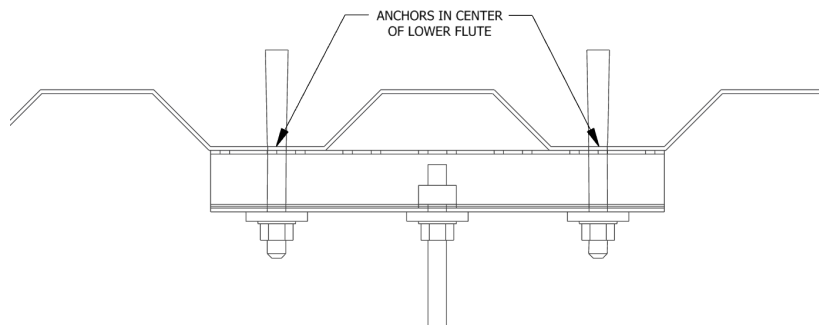

Figure 251: **Anchors Installed in Center of Lower Flute**
- When installing anchors into a steel over concrete pan deck, make sure anchors are placed in the center of the lower flute channels as shown in Figure 251.